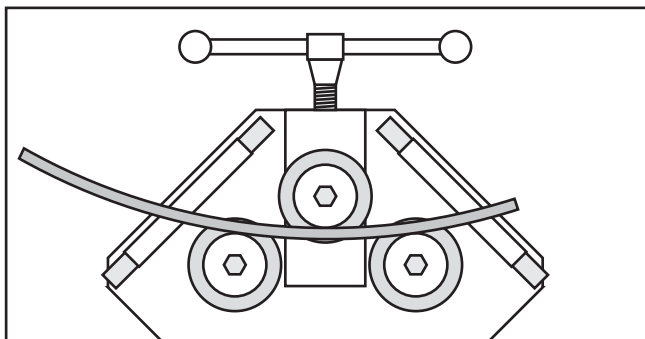

Figure 17. Example of second bending pass.
8. Use foot controls to move workpiece in opposite direction to create more bend in workpiece (see **Figure 17**).